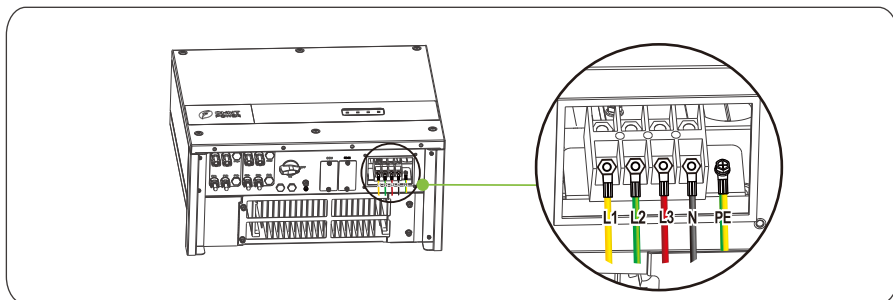

Figure 5.6 Connecting AC OUTPUT wires
Step 3 Remove the four screws on the AC OUTPUT terminal cover, and connect L1, L2, L3, N and PE through AC OUTPUT connector to the terminal block, use a screw driver to tighten screws with a torque of $3\text{N}\cdot\text{m}$, as shown in Figure 5.6.